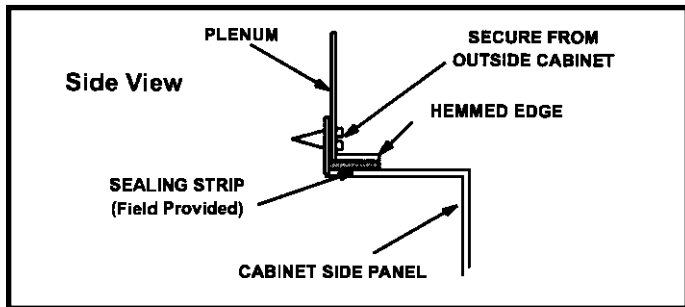

Figure 10
1. Bottom edge of plenum should be flanged with a hemmed edge (See Figure 10).